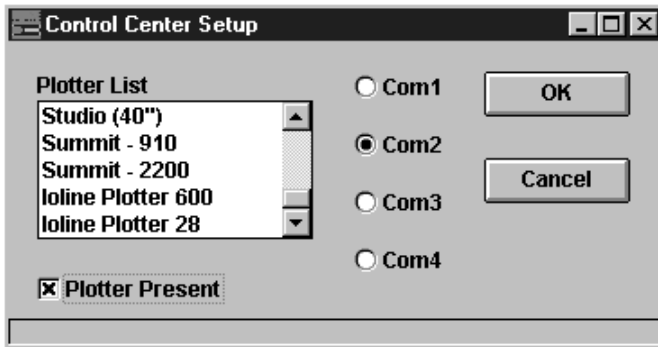

Figure 23. Control Center Setup screen.
3. The software will attempt to identify the plotter. If the Control Center cannot find a plotter connected to the computer the Control Center Setup screen will appear. See *Figure 23*.